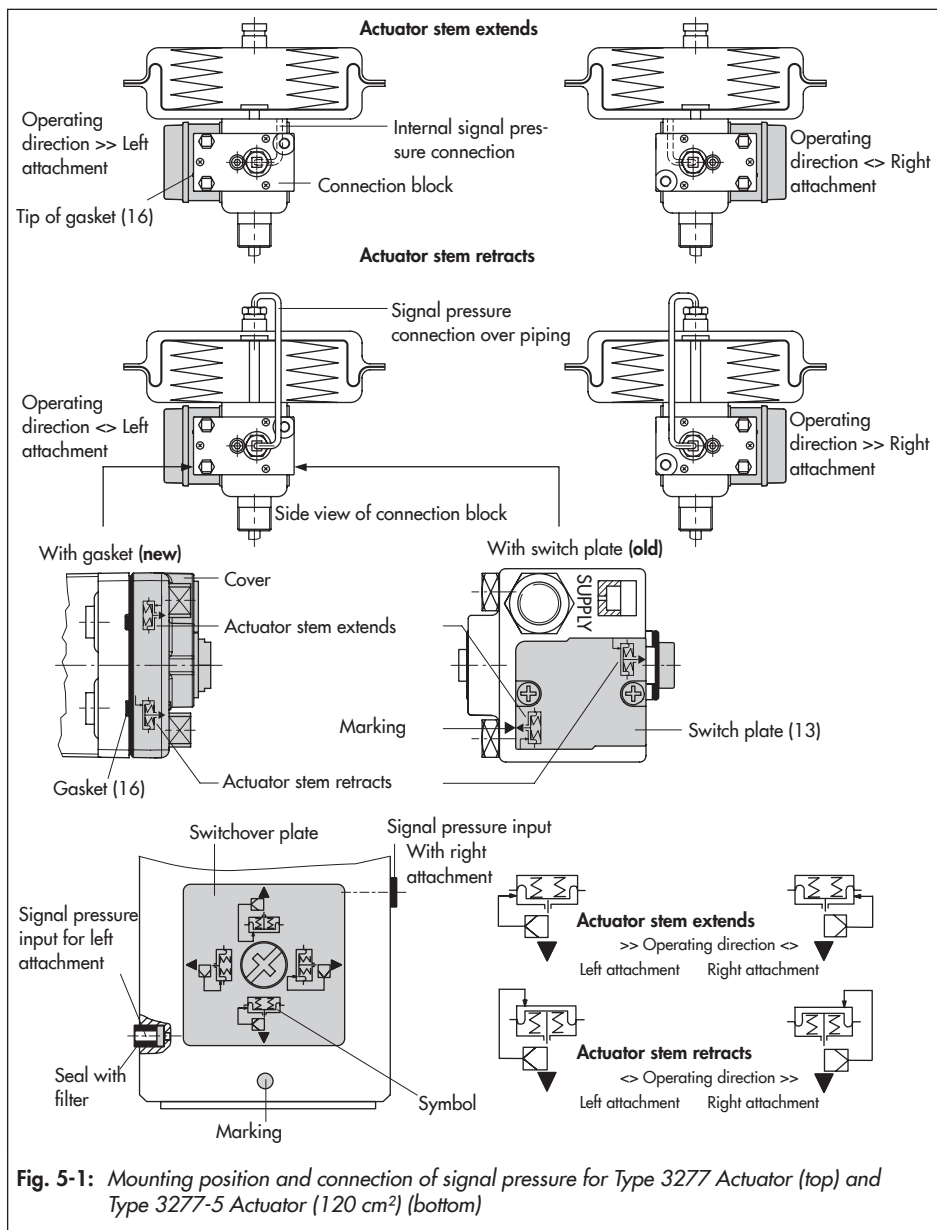
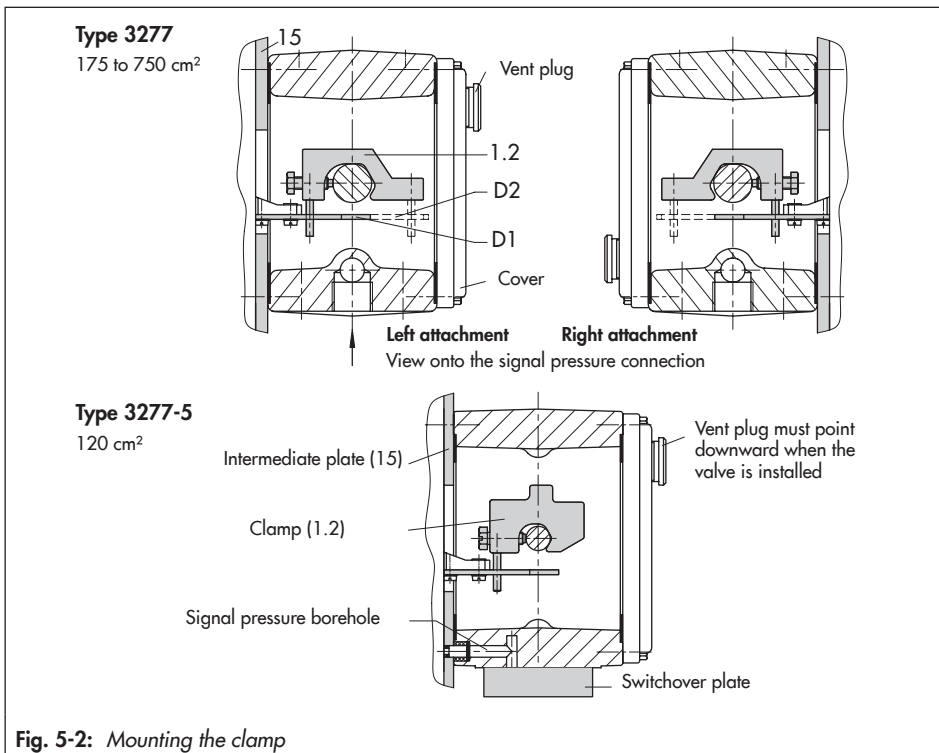

Fig. 5-1: Mounting position and connection of signal pressure for Type 3277 Actuator (top) and Type 3277-5 Actuator (120 cm²) (bottom)
Fig. 5-2: Mounting the clamp
- See Fig. 5-2
The positioner is mounted on the left or right side of the valve depending on the actuator's direction of action (fail-safe action) and the operating direction of the positioner control loop (see Fig. 5-1, top).
7. Make sure that the tip of the gasket (16) projecting from the side of the connection block (Fig. 5-1, middle) is positioned to match the actuator symbol for the actuator's fail-safe action "actuator stem extends" or "actuator stem retracts".
The signal pressure is transmitted to the diaphragm chamber over the switchover plate (Fig. 5-1 and Fig. 5-2, bottom).